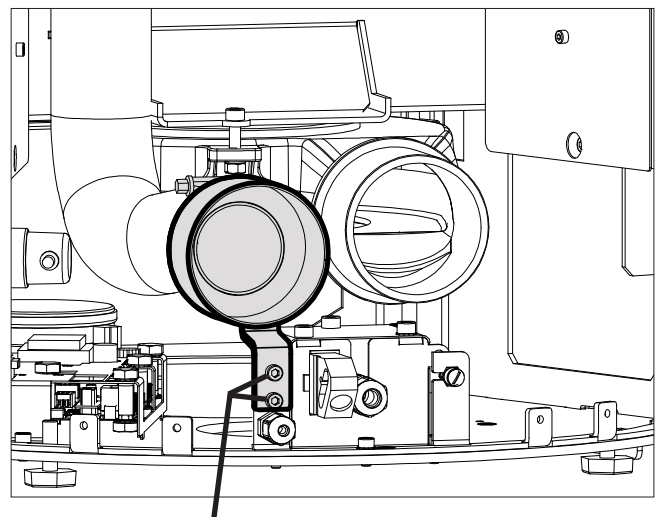

Fig.3 Screws combustion air duct
- Unscrew the combustion air duct (Fig.3).